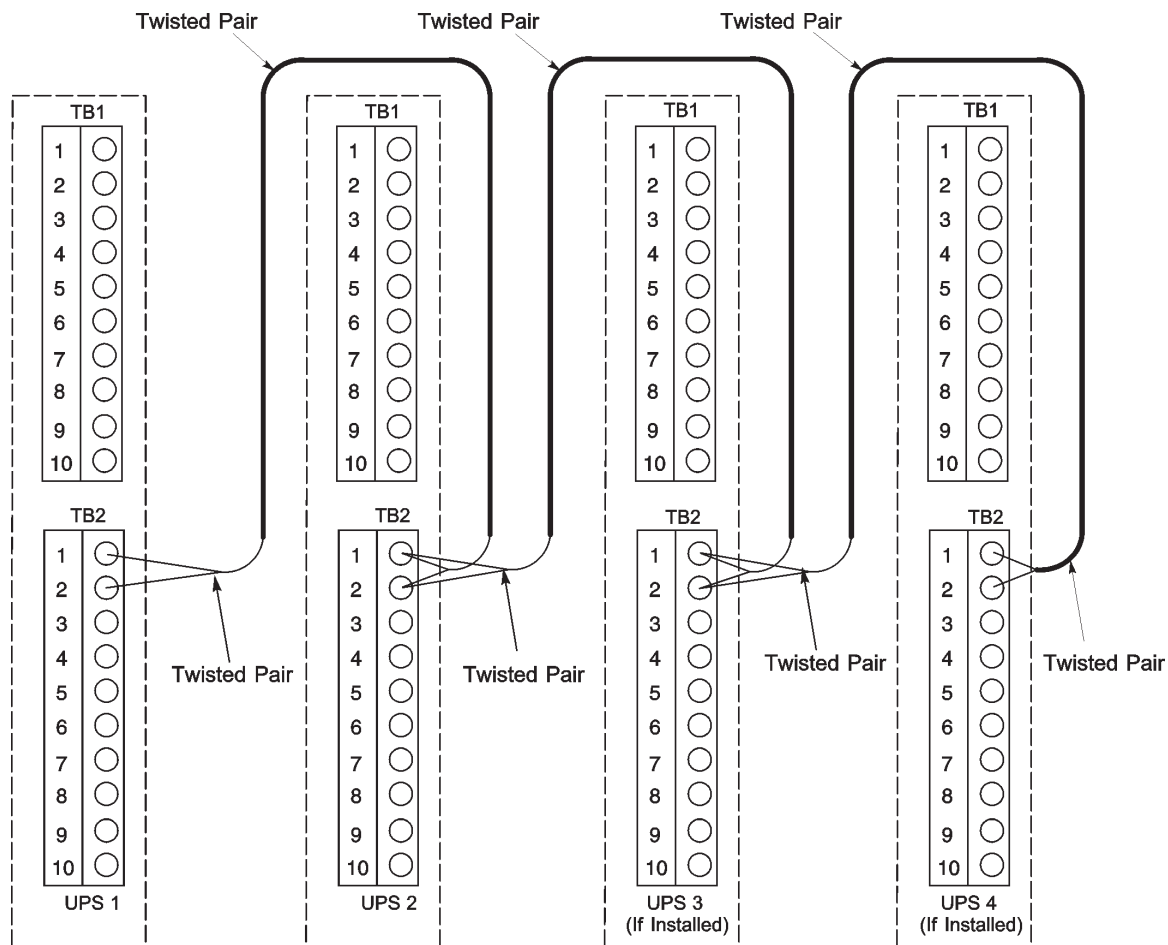

Figure 5-5. Distributed bypass Pull-Chain wiring without MOB's
9. Route and install distributed bypass system pull-chain wiring between the UPS cabinets. See Figure 5-5 and Table 5-3 on page 52 for wiring information.